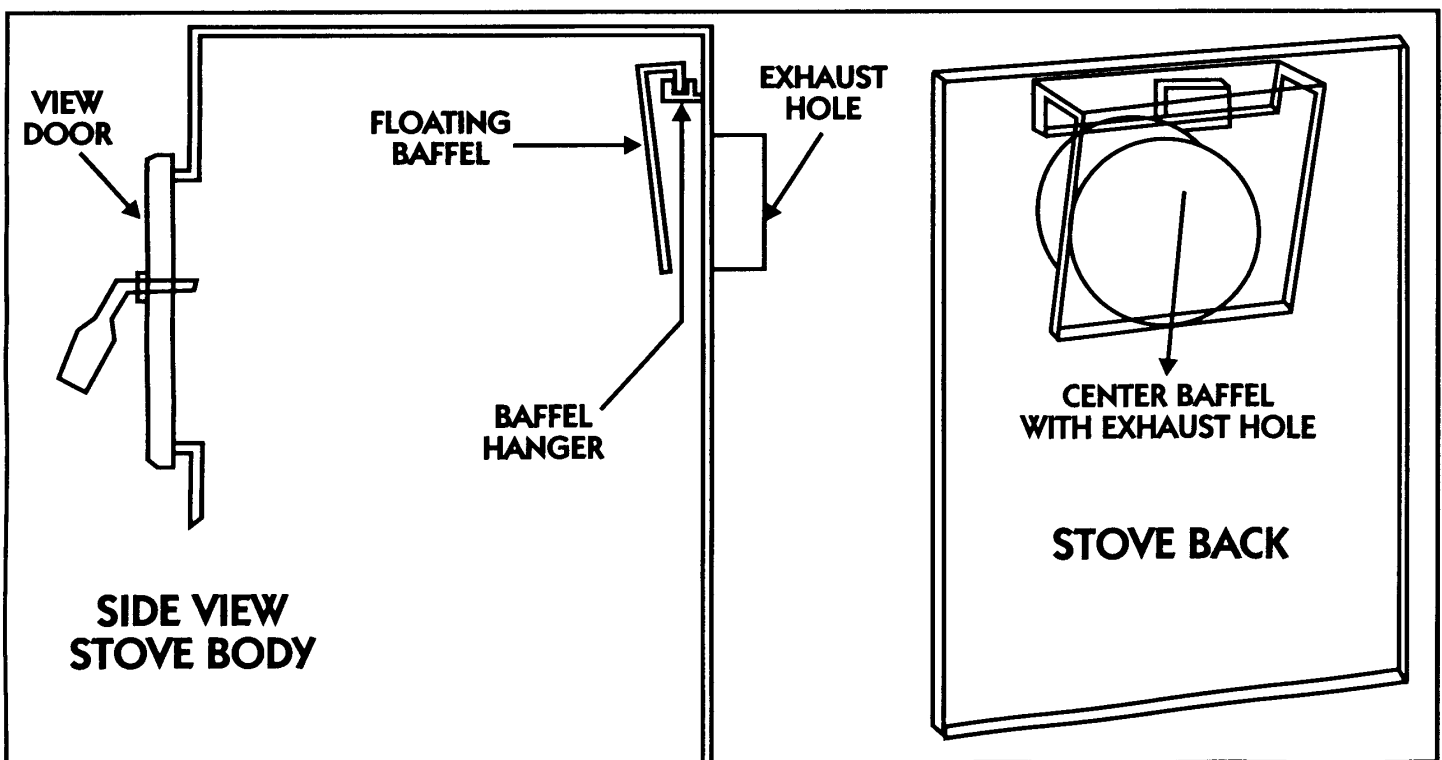

Figure 2
- A) Locate **Floating Baffle**, open view door, look through door to upper back of stove body and you will see the baffle hanger. Place bend of baffle on hanger, center with exhaust hole. (*See Fig. 2*)